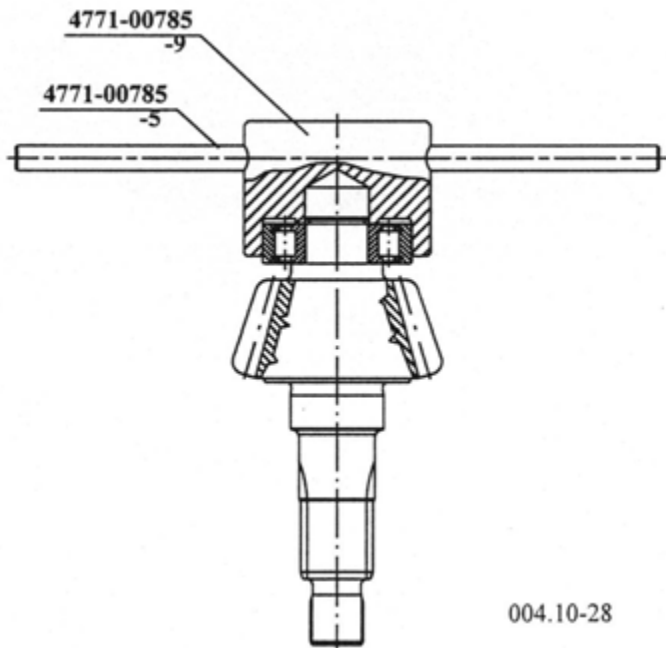

Fig. 9.: DRIVING ON THE CYLINDRIC ROLLER BEARING
Drive on the cylindric roller bearing (45) by means of the pressing head (Fig. 9.)